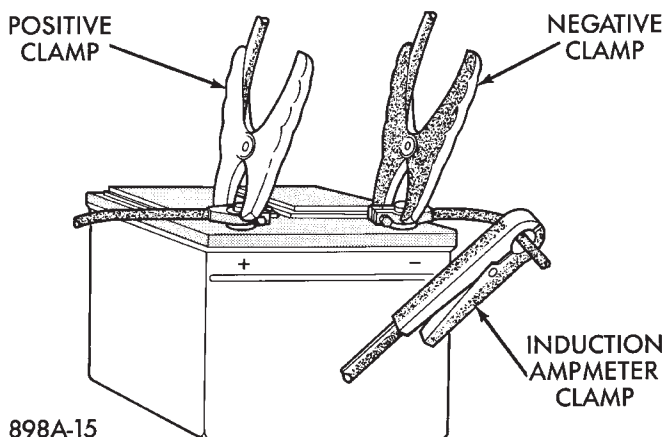

Fig. 7 Volt-Ampere Tester Connections
(1) Connect a volt-ampere tester to the battery terminals (Fig. 7). Refer to the operating instructions provided with the tester being used.